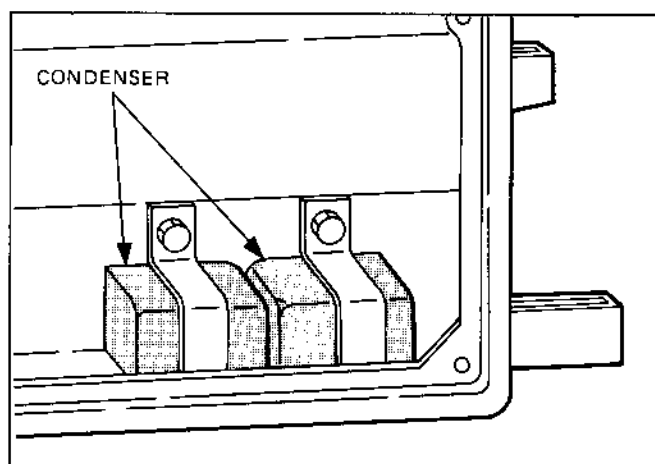

Fig. 9-6
- If an instrument (QC-meter or C-meter) for measuring capacity of condenser is available, check the capacity of condenser. (See Fig. 9-6.)